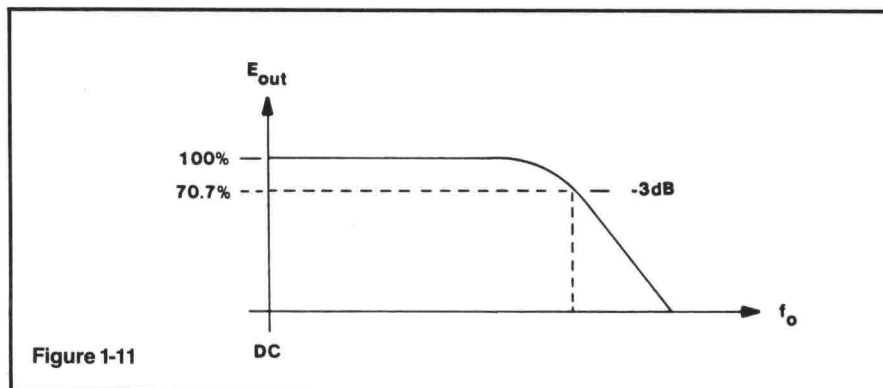

Figure 1-11
**Bandwidth.** Bandwidth is the point on an amplitude versus frequency curve where the measurement system is down 3dB from a starting (reference) level. Figure 1-11 shows a typical response curve of an oscilloscope system.